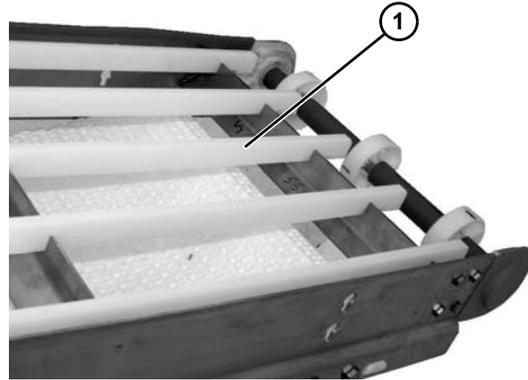

Figure 46
2. Remove worn wear strips (**Figure 46, item 1**) from frame notches.